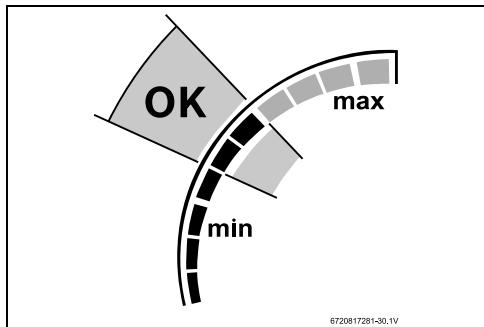

Fig. 59 Power bar middle point
- ▶ Verify if power bar level is at middle point, see fig. 59.